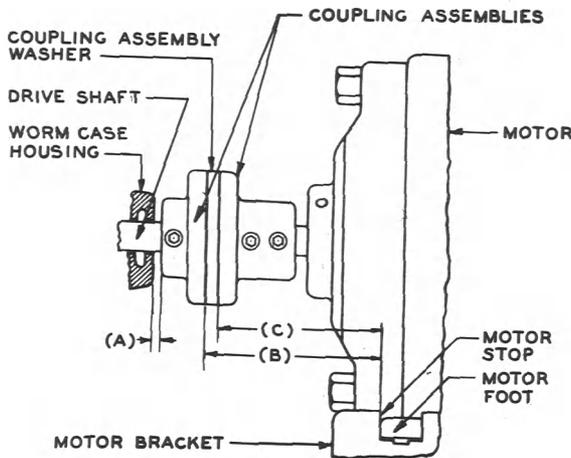

Fig. 7 - Relationship Between Motor and Coupling Assembly
2.14 Location of Coupling Assembly on Drive Shaft: Fig. 7(A) - With the motor stopped the clearance between the coupling
Fig. 7(B) - The finished surface of the motor stop shall be 2-23/32 inches \pm 3/64 inch in a horizontal line from the face of the coupling assembly mounted on the drive shaft.
Fig. 7(C) - The face of the coupling assembly on the drive motor shaft shall be set with its face located 2-7/16 inches \pm 1/64 inch from the finished end of the motor feet.